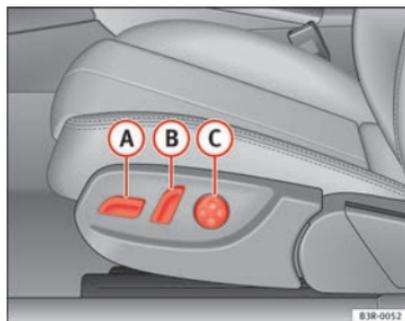
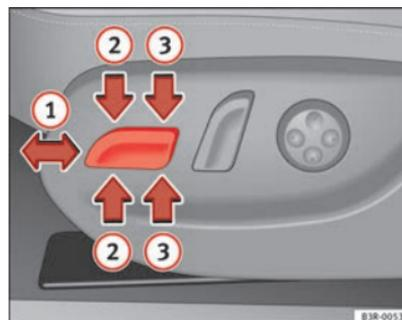

Fig. 105 Front seat: Adjuster controls
Fig. 106 Front seat: Seat adjustment switches
- Press switch **A** ⇒ Fig. 105 forwards or backwards **1** ⇒ Fig. 106 ⇒ **1**.